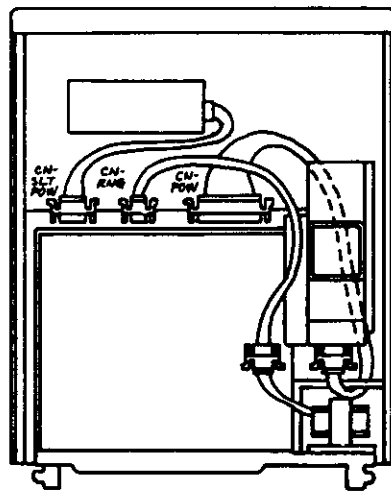
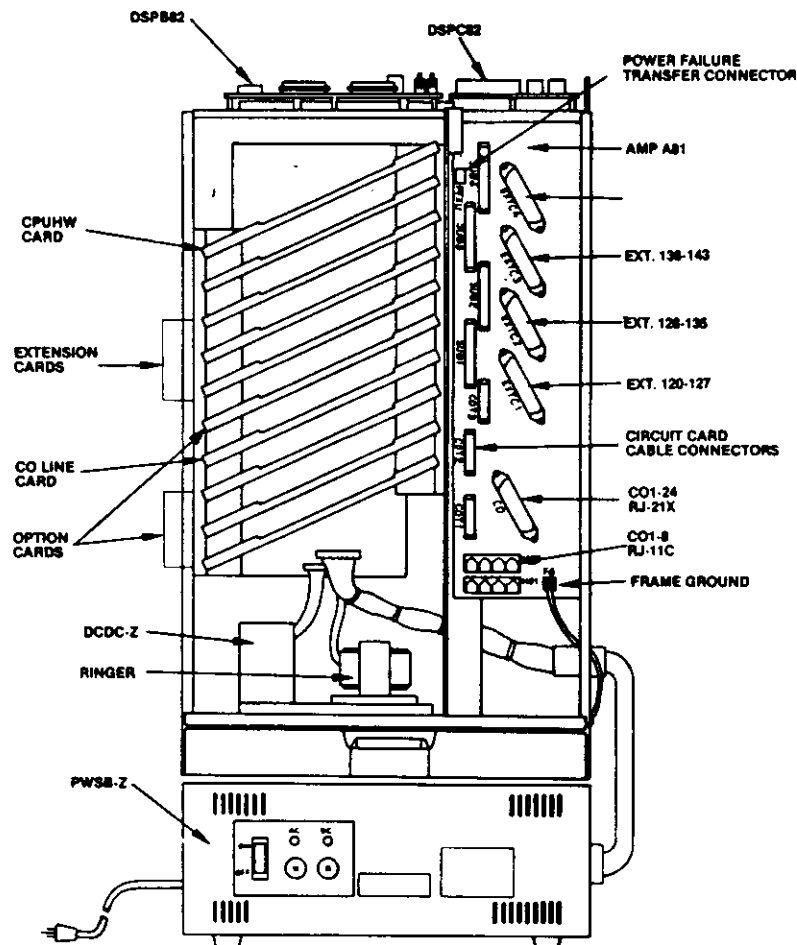

FIGURE 4-6
FIGURE 4-7 ZT-824 KSU
- Wiring diagram for the ZT-616 KSU with PWSA, Batteries, ring generator RNGER and DCDC-Z1 circuit cards is shown in Figure 4-6 (Page 4-9).
- The ZT-824 provides for system configurations of up to eight (8) CO/PBX lines and twenty-four (24) extensions. Its power source is an externally mounted model ZT-PWSB power supply unit.
- Figure 4-7 illustrates a ZT-824 KSU with its cover removed and details the major components and slot locations. (Page 4-9).